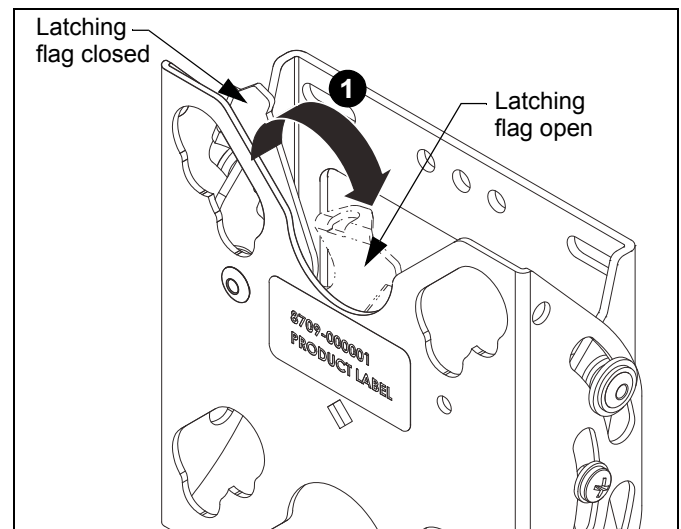

Figure 6
1. Open latching flag by rotating flag clockwise on FTR (A). (See Figure 6)